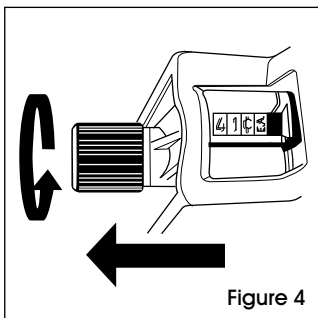

Figure 4
5. Pull knob until indicators are on the desired band. (See Figure 4)